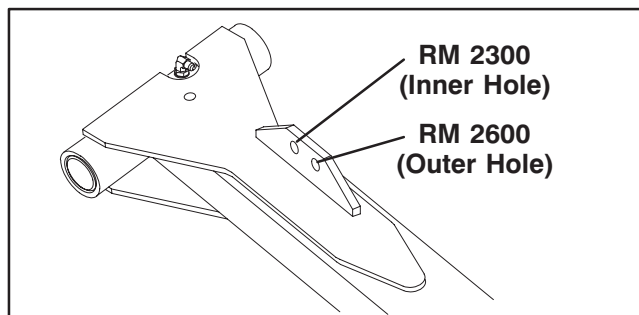

Figure 8
8. Secure other one end of lift chain to hole in lift arm mounting tab with clevis pins and cotter pins. Use appropriate hole in lift arm as designated in figure 8.